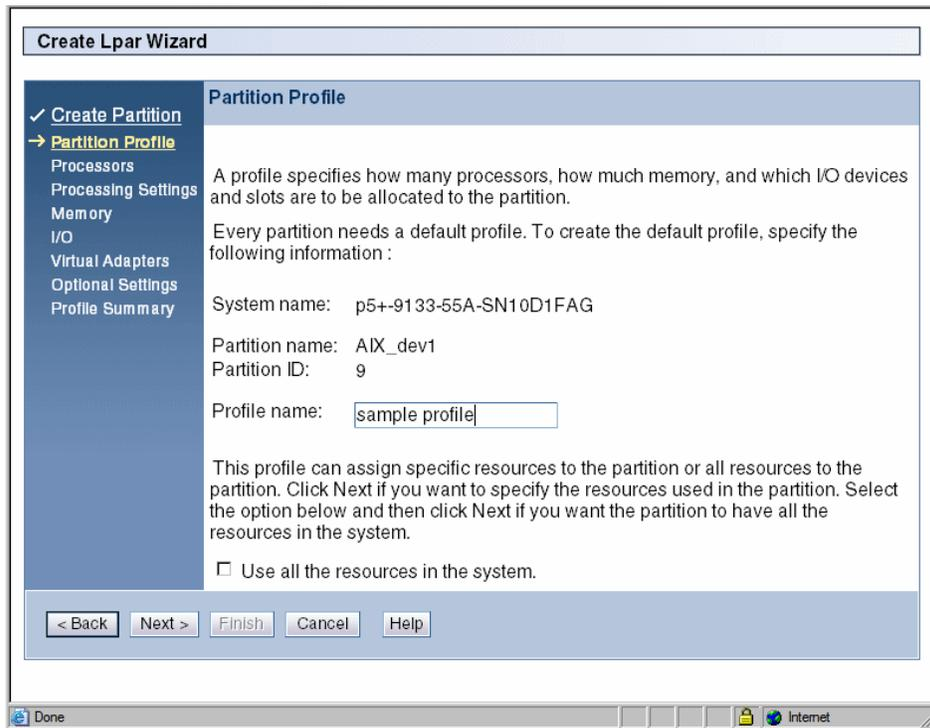

Figure 7-8 Create an AIX partition
2. Enter a profile name for this partition and click **Next** (Figure 7-8). You can then create a partition with either *shared* or *dedicated* processors on your server.